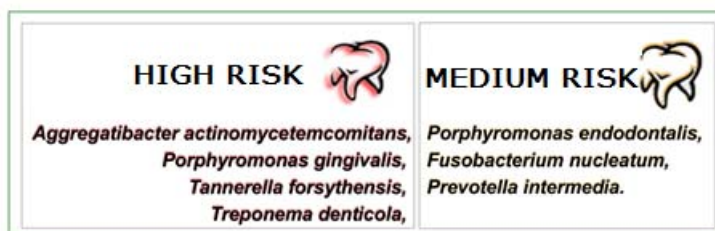

Figure 2. List of high and medium risk Periodontopathogenic Bacteria
Periodontal diseases are a diverse group of infectious diseases of periodontal tissues with different specific pathogens, which are non-clostridial anaerobic bacteria. According to the WHO classification, they are grouped in the so-called Periodontopathogenic Bacteria (PB) [Fig. 2]. It is now established that this group of pathogens is a major cause of progressive periodontal disease. This leads to the need for specific methods of diagnosis and treatment of identified